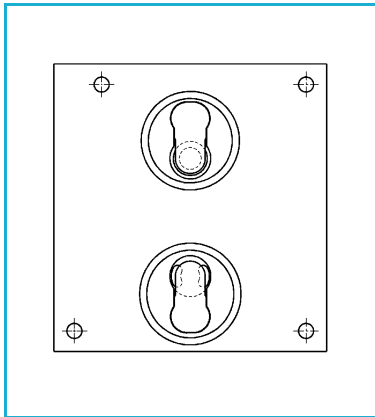

Fig. 11: Position of valve plates
4. Lay new valve plates (3) in the valve seats of the intermediate plate (6). See fig. 11 for position.
5. Insert two new O-rings (4) and new O-ring (5) into the seat in the intermediate plate (6).
4. Lay new valve plates (**3**) in the valve seats of the intermediate plate (**5**). See fig. 11 for position.